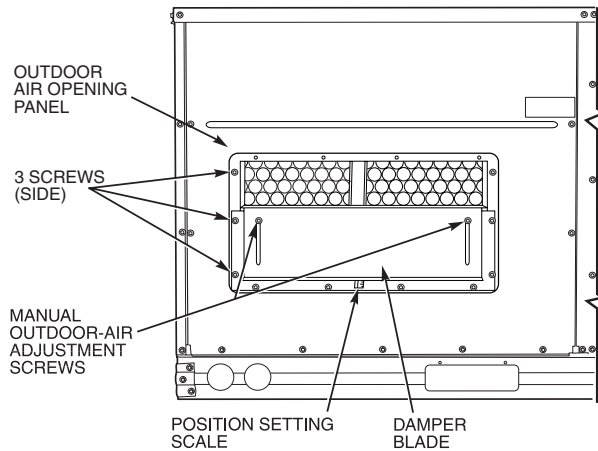
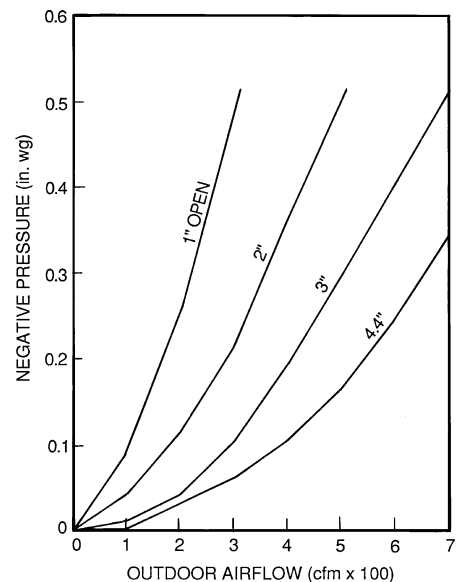

Fig. 10 — Damper Panel with Manual Outdoor-Air Damper Installed
Fig. 13 — Outdoor-Air Damper Position Setting
2. Remove and save outdoor-air opening panel and screws. See Fig. 10.
the front of the damper blade. See Fig. 10. Slide blade vertically until it is in the appropriate position determined by Fig. 13. Tighten screws.